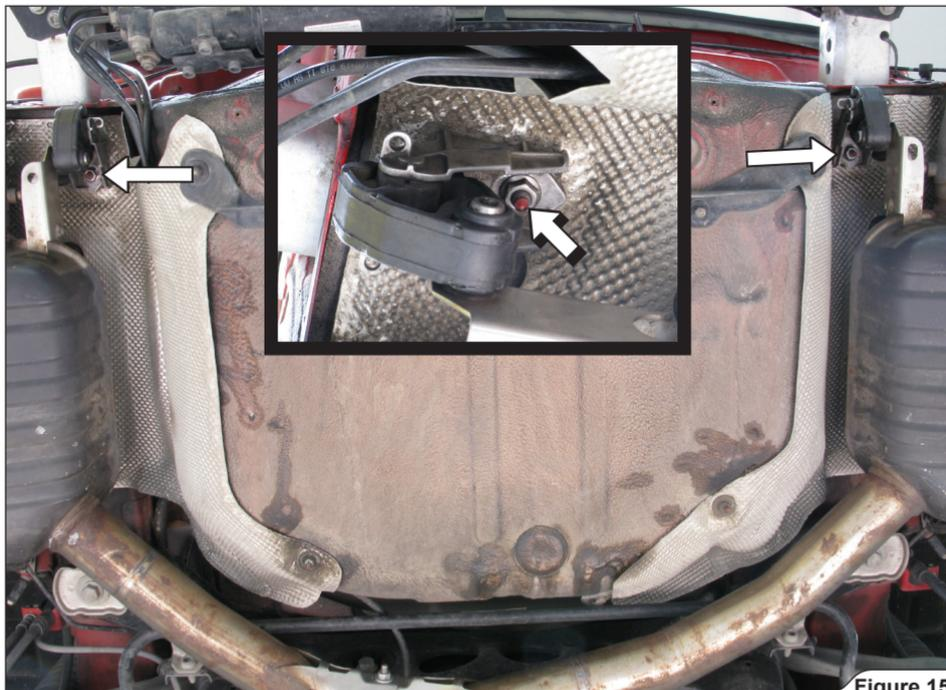

Figure 15
- Support the exhaust system, unscrew the marked bracket nuts and carefully remove the exhaust system off the vehicle (**Figure 15**).